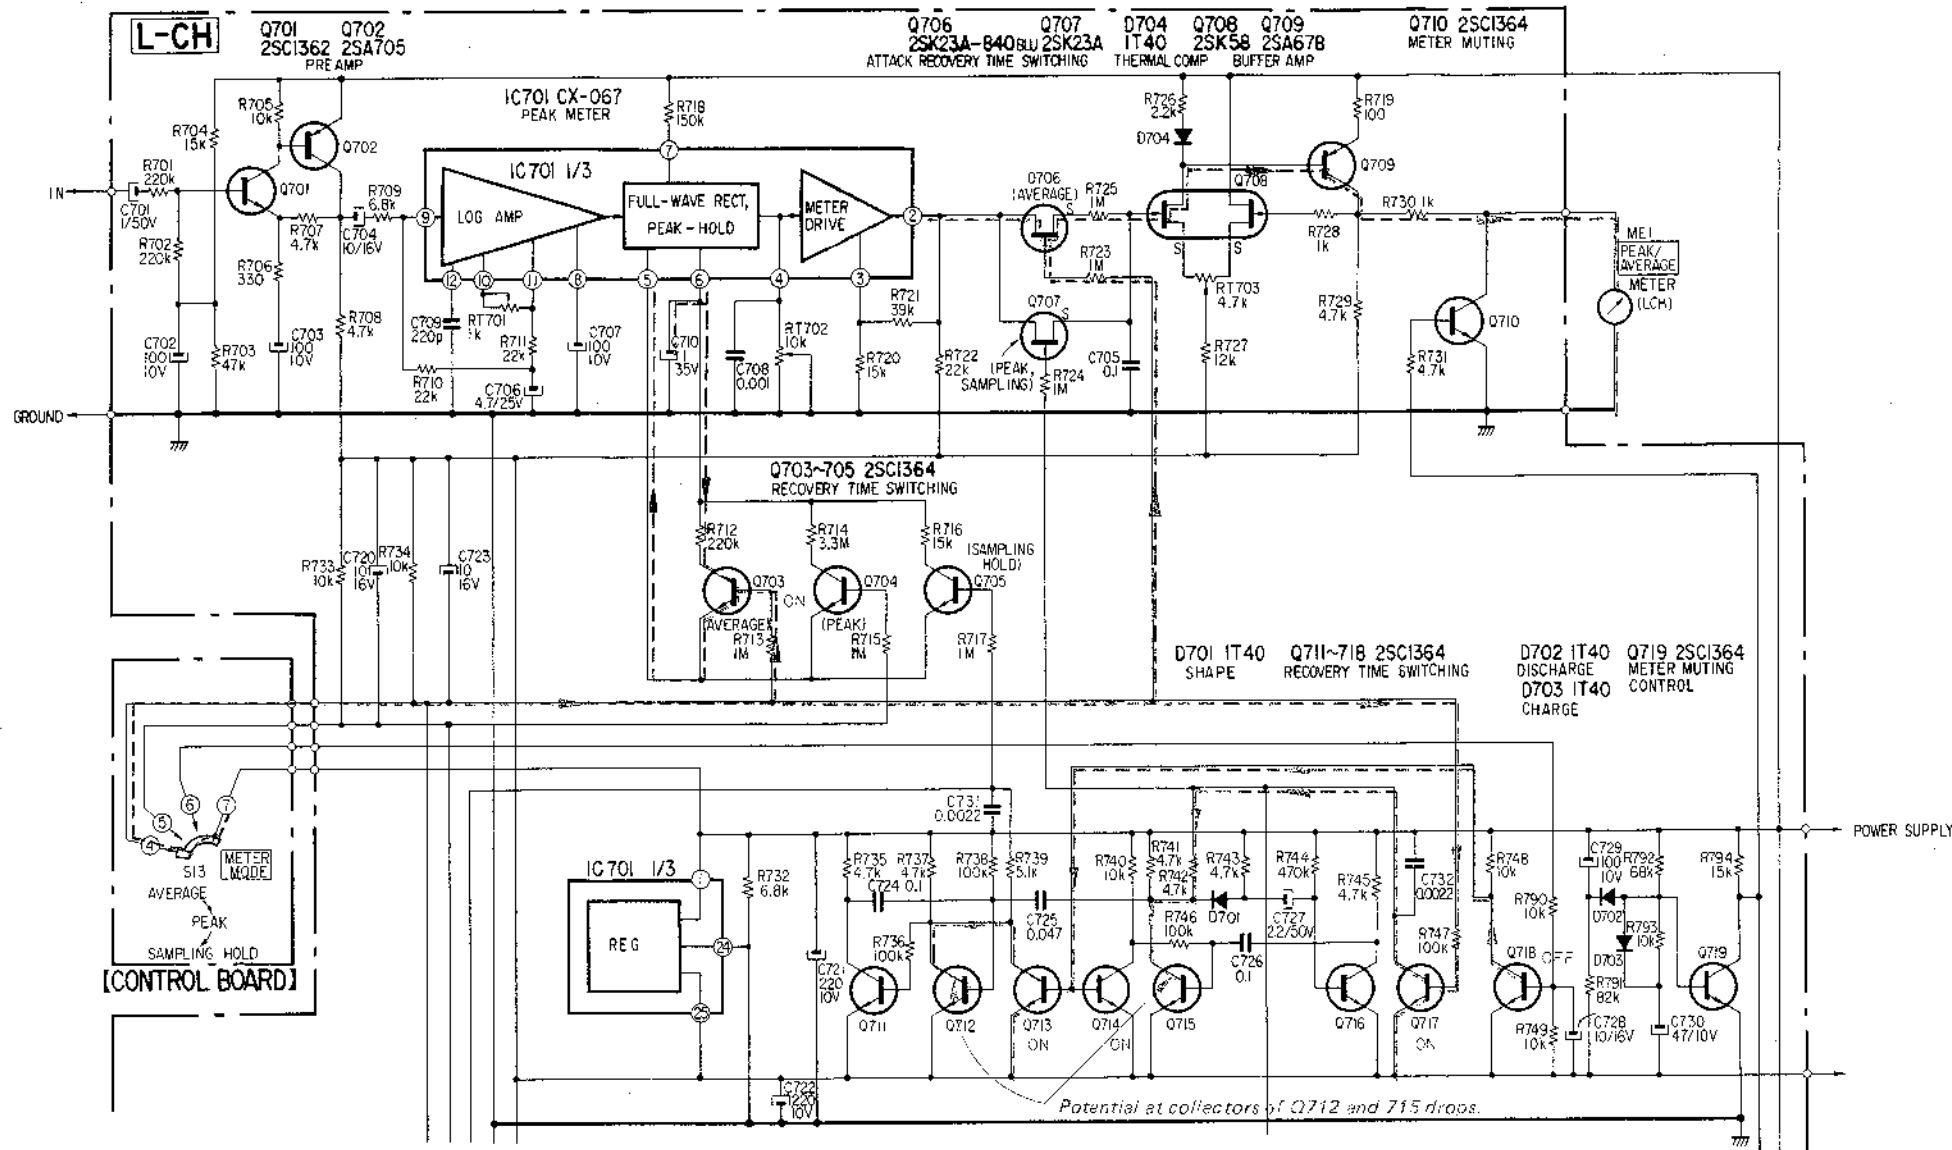
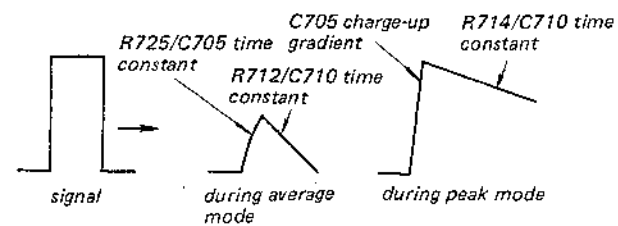
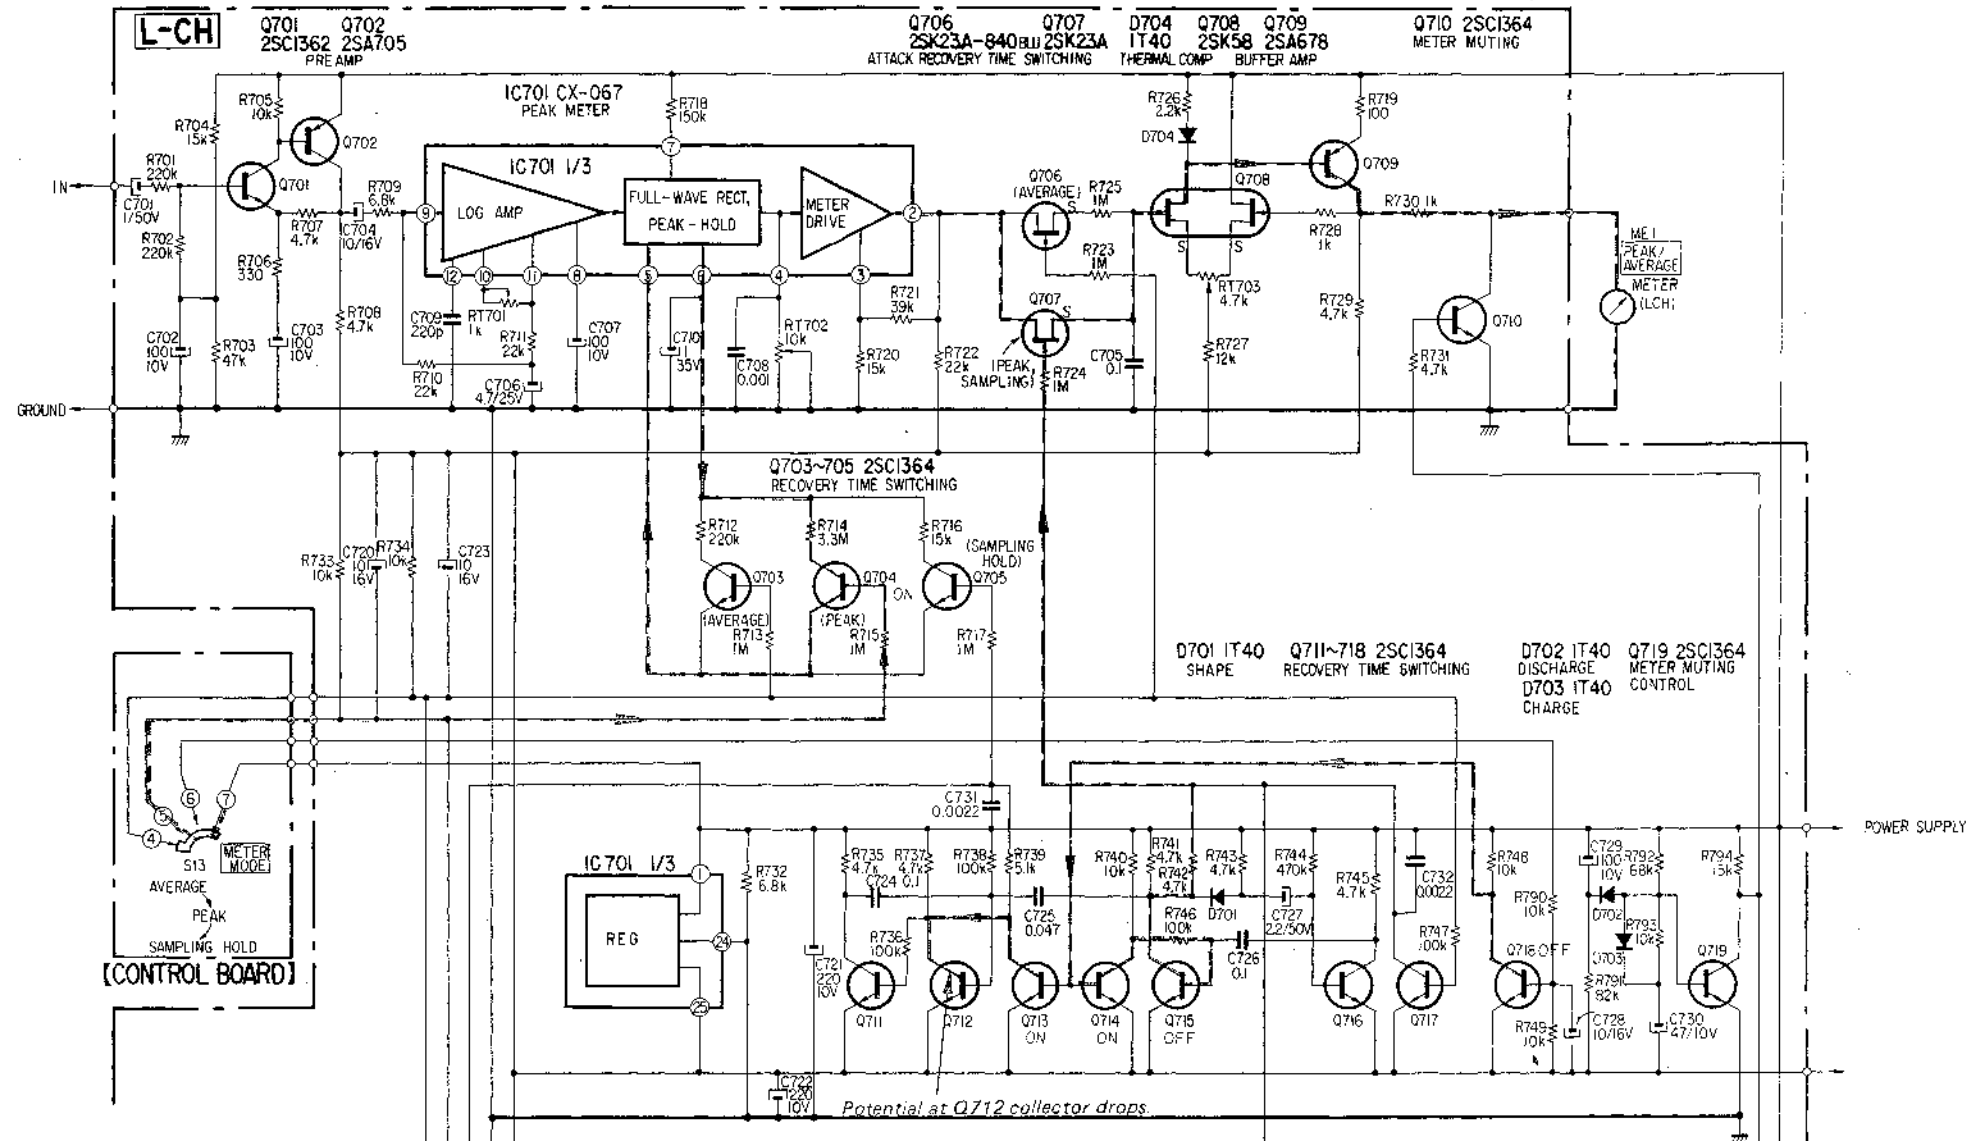

Fig. 1
Fig. 3
Fig. 4
1. Preamplifier Circuit (Fig. 1)
2. IC701 (CX-067) and It's Surrounding Circuits (Fig. 1)
* During peak mode, Q704 is turned on (see Fig. 4), and C710 discharges through R714 (3.3 MΩ) taking approximately five times longer than during average mode (see Fig. 3).
* During average mode, Q703 is turned on (see Fig. 1), and C710 discharges relatively rapidly through R712 (220 kΩ) (see Fig. 3).
* During average mode, Q706 is turned on (Fig. 1) and current passed through R725, charges C705. Charge-up time is thus determined by the C705/R725 time constant. (Fig. 3).
* During peak mode, Q707 is turned on (Fig. 4), but since there is no resistor connected in series, C705 will charge up immediately (Fig. 3).